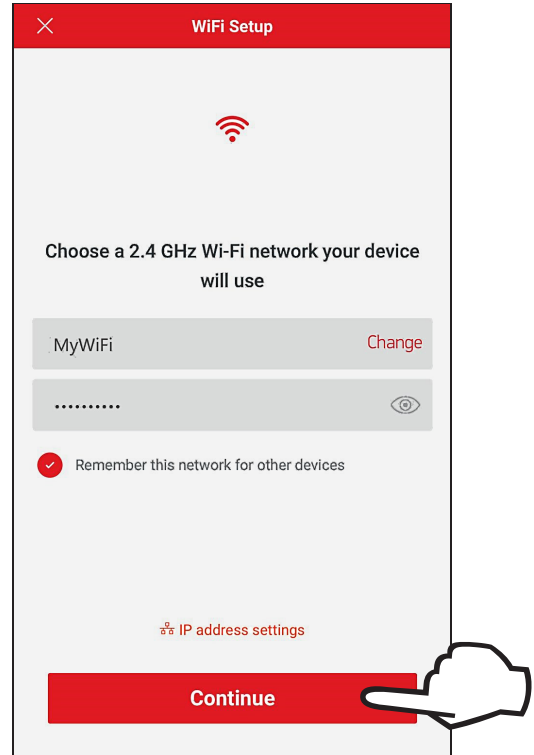

Figure 94. Wi-Fi Setup
- The "Wi-Fi setup" screen will appear. Select or enter the Wi-Fi network you want your unit to be connected to and enter the network password. See Figure 94.